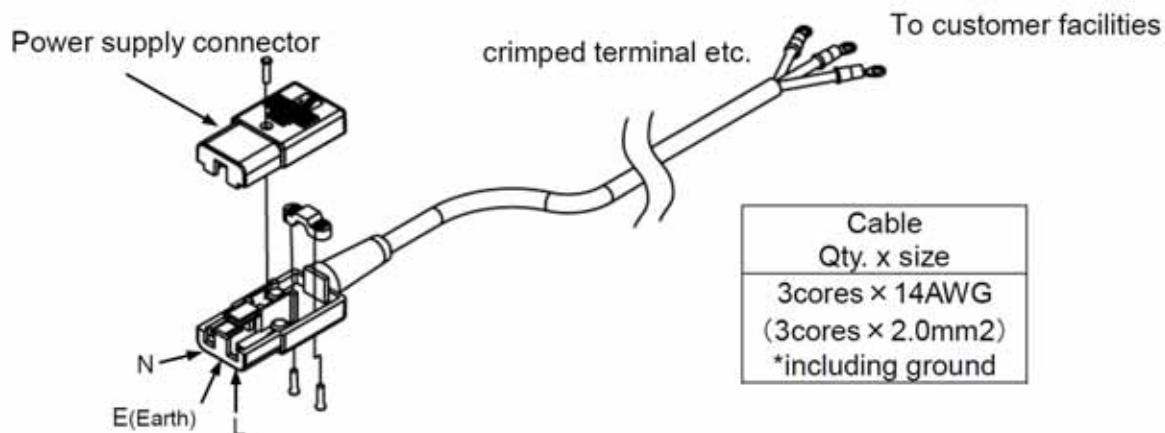

Figure 4-3. Preparing SMC Chiller Power Cable
11. Disassemble the power supply connector (supplied with the chiller as an accessory), and mount one end of the cable to the L, N, and E terminals on the connector and reassemble the power supply connector. See Figure 4-3.